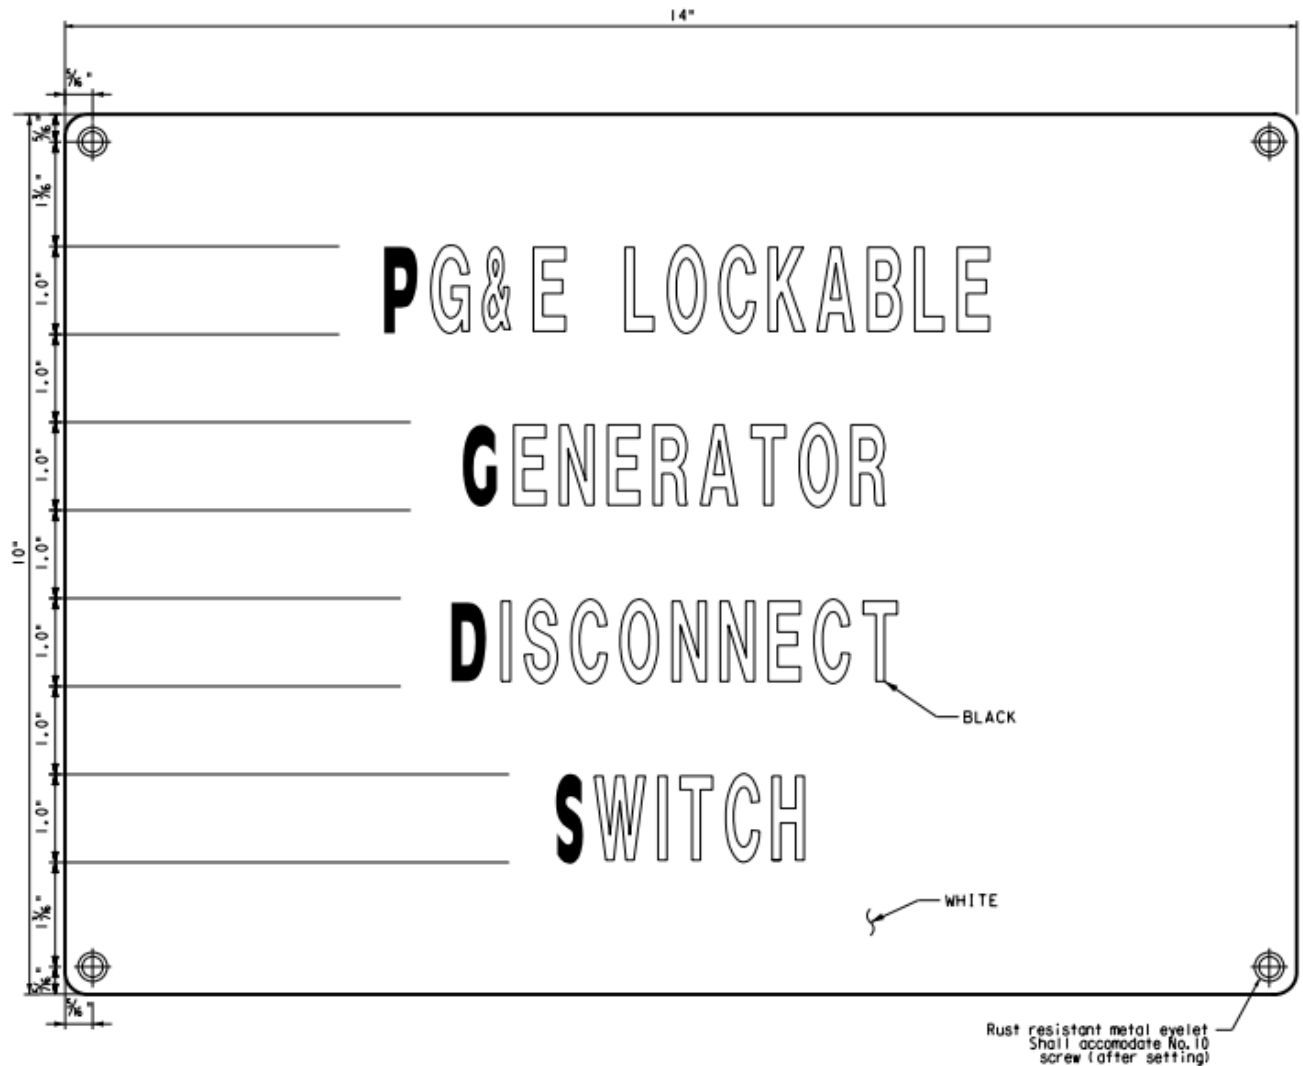

Figure 4. Wording for a PG&E Disconnect Switch Sign
3. SEE Figure 4 below for the wording used on a 10-inch x 14-inch disconnect switch sign with black lettering on a white background.